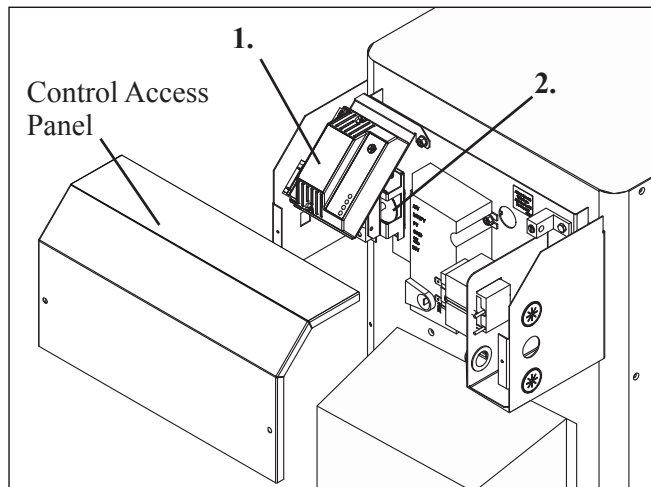
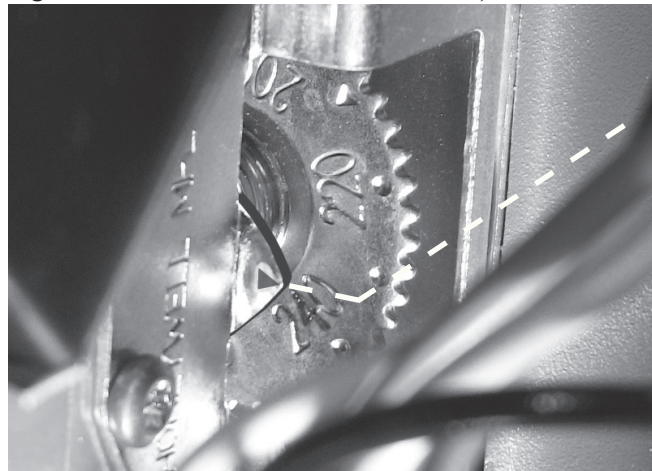

Figure 18A.
Figure 18B. Secondary, mechanical high-limit aquastat
**Important:** If the secondary controller (See **Figure 18A** and **Figure 18B**) dial is set below 220F, it may inhibit proper operation of the primary controller. Prior to calling for technical support, please ensure high limit control is set for at least **220F**.